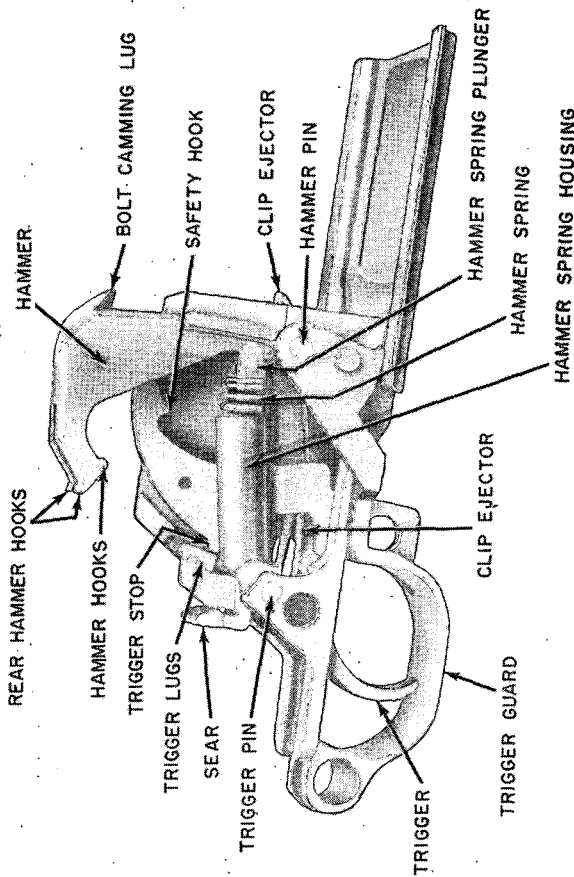
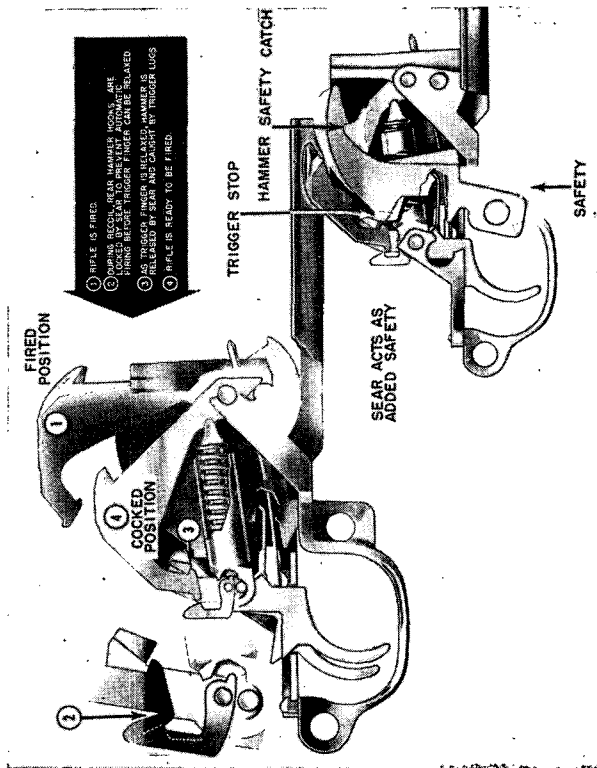

Figure 42. The trigger housing group.
Figure 43. Functioning of the trigger housing group.
- (1) Remove the trigger housing group (fig. 42). Close and latch the trigger guard and cock the hammer. The hammer is held in the cocked position by the trigger lugs which are engaged with the hammer hooks. Hold your left thumb over the hammer and slowly squeeze the trigger. Notice how the trigger lugs move forward, releasing the hammer hooks. The hammer is forced forward by the expanding hammer spring (fig. 43). This happens each time the trigger is squeezed if you release your finger from the trigger after each shot is fired.
- (2) However, there must also be a way of stopping the hammer from going forward even if you keep your finger pressed on the trigger after each shot. This is done by the sear, which catches on the rear hammer hooks. Now squeeze the trigger and hold it to the rear. Cock the hammer slowly and see how the sear catches on the rear hammer hooks and